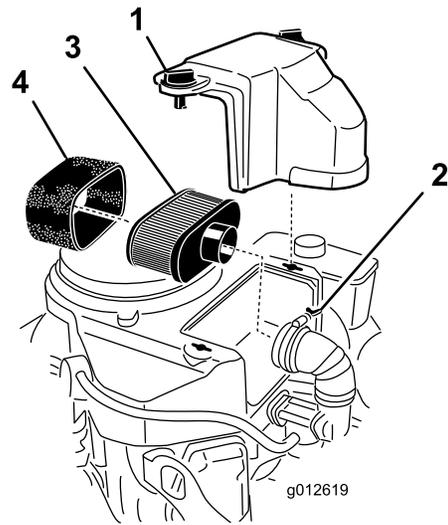

Figure 23
3. Clean around the air cleaner to prevent dirt from getting into the engine and causing damage (Figure 23).
4. Unscrew the cover knobs and remove the air cleaner cover (Figure 23).
5. Unscrew the hose clamp and remove the air cleaner assembly (Figure 23).
6. Carefully pull the foam element off the paper element (Figure 23).
1. Do not clean the paper filter, replace it (Figure 23).
1. Carefully slide the foam element onto the paper air cleaner element (Figure 23).
2. Place the air cleaner assembly onto the air cleaner base and secure it with the 2 wing nuts (Figure 23).
3. Place the air cleaner cover into position and tighten the cover knob (Figure 23).